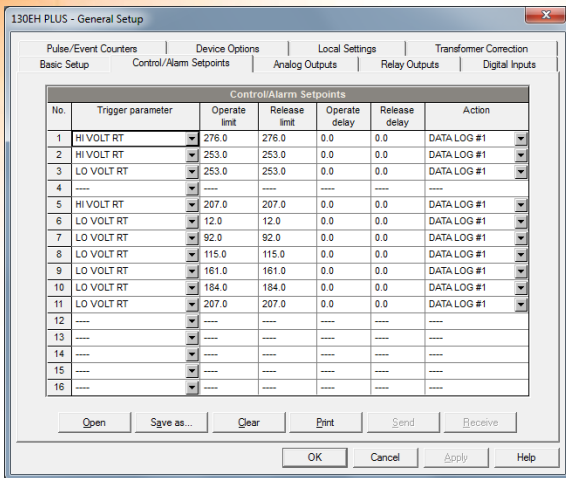

Figure 1: Setpoints Configuration
For sag/swell interruption detection, several set-points should be defined (see Figure 1):
3. Set-points were programmed as described above and shown in Figure 1